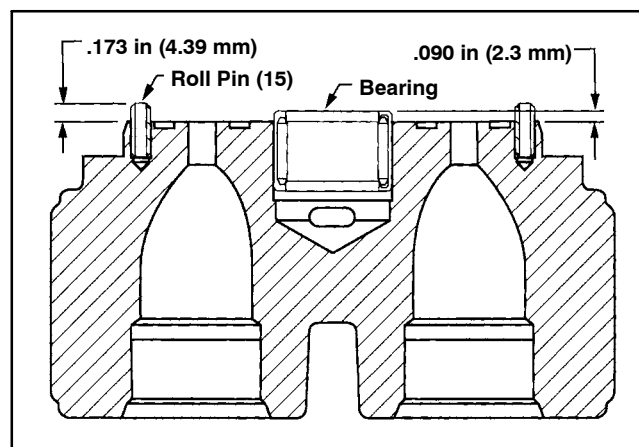

Figure 65
2. If necessary, install new needle bearing (17) in housing (3) with numbered end of the bearing outward.
3. Install retaining ring (9) on shaft. Install thrust race (10), thrust bearing (13), and second thrust race (10). Secure with second retaining ring (9).
4. Install shaft in housing. Install washer (18), new shaft seal (8), and retaining ring (6).
5. Install camplate insert (5) with the lettering side of insert to the front of the housing. Use petroleum jelly to hold in place during assembly.
6. Install rotating assembly (4) into housing. Make sure that piston shoes make contact with the camplate insert.
8. If roll pins were removed, install to dimension shown in Figure 65 and with opening of roll pin oriented away from bearing within 5 degrees of bearing center line.
9. To replace bearing (16) in backplate (2). Press bearing down to the dimension shown (Fig. 65) protruding from backplate with numbered end of bearing facing up next to valve plate.